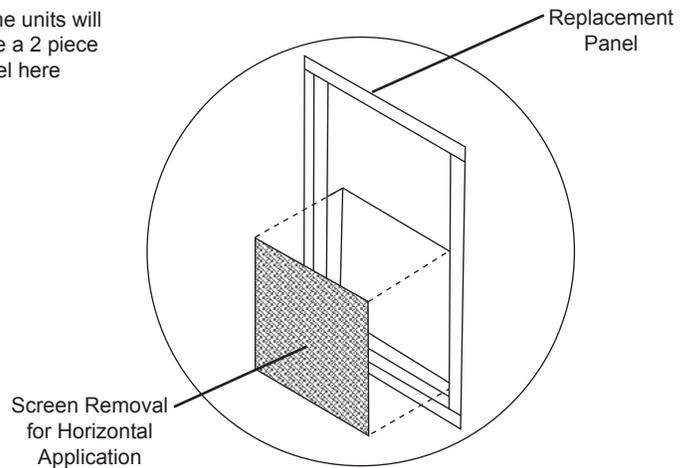

Fig. 4 - Screen Removal Detail
3. Remove screen from replacement panel shipped with hood package and screw in place over the cut out in duct. See Fig. 4. The panel can be discarded.